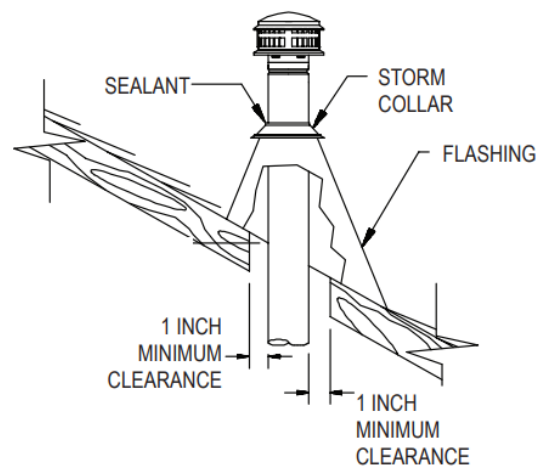

Figure 4
11. A non-hardening sealant should be used around the edges of the flashing base where it meets the roof. Non-hardening sealant is placed around the joint between the Flashing and the vertical Pipe Section. The Storm Collar is then placed over this joint, to make a watertight seal. (Figure 4)